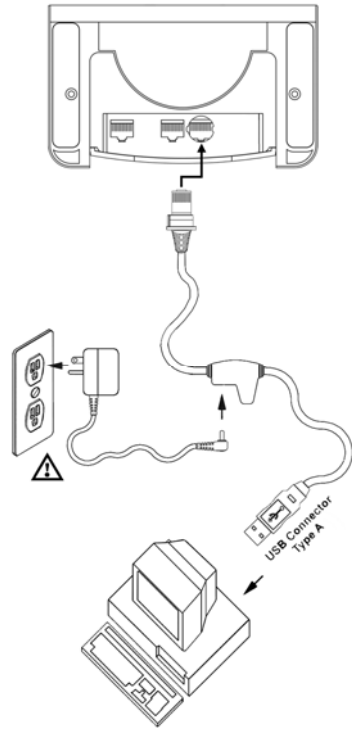

Figure 6. USB, Interface
1. Connect the keyed VLink cable to the 10-pin Multi-Interface jack. It is the only circular keyed jack located on the bottom of the 7820 (see figure 6).